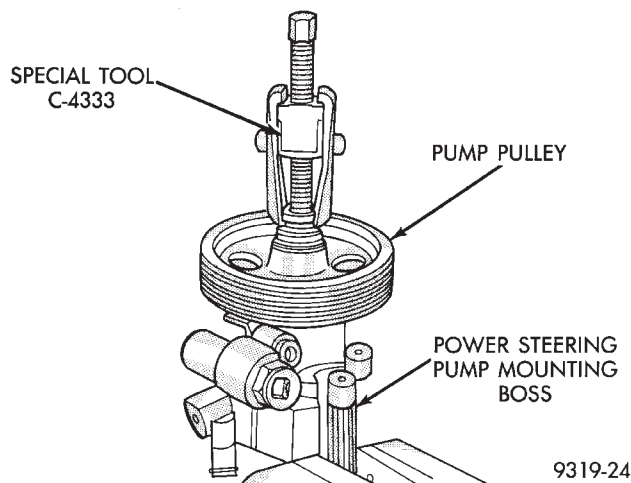

Fig. 2 Removing Power Steering Pump Pulley
(2) Remove the power steering pump pulley from the power steering pump shaft using Puller, Special Tool C-4333 (Fig. 2).